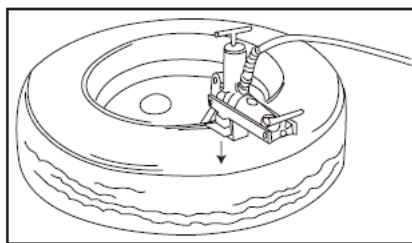

Figure 4
2. Continue to apply hydraulic pressure until the bead breaking ram extends about 1/4 inch [6,35 mm] from the bead breaker. (See Fig. 4.)